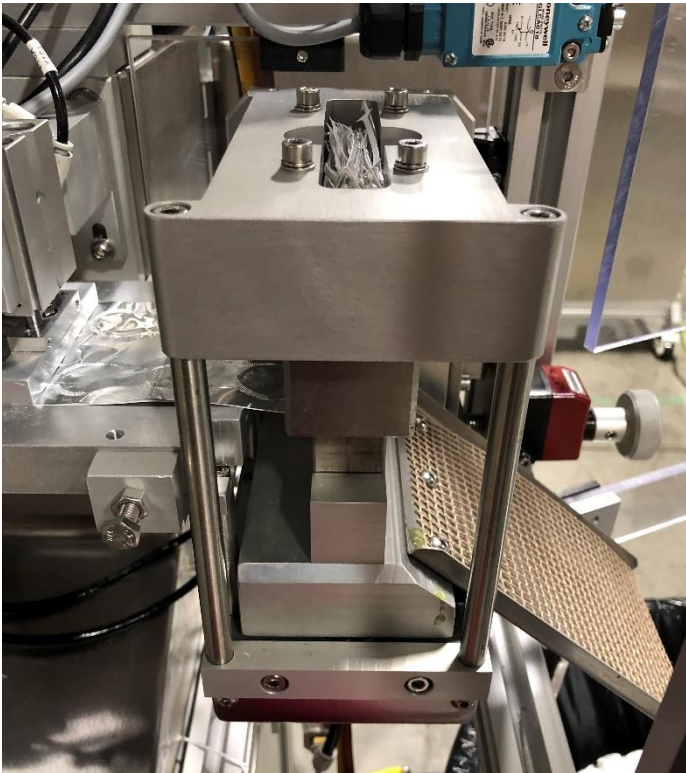
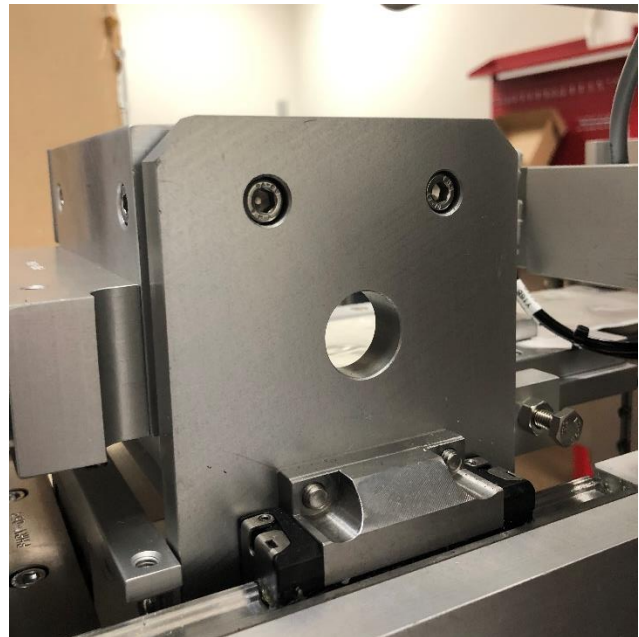

Figure 14
Figure 15
- Simply move cut-off knife to proper positioning for cutting (usually center between sealed blisters) The station will adjust in the “X” axis via a control knob with an indicator to record settings. (*Figure 14*)
- To change knife set, remove from station by removing (2) screws located on top of die set.
- The upper die is held on with (2) screws from the top housing. (*Figure 15*)